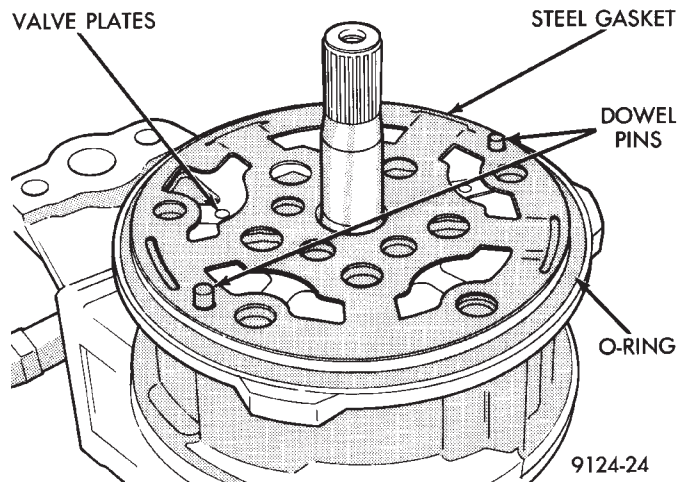

Fig. 8 Disassembling Compressor Front End
(10) Remove dowel pins, valve plates, and steel valve plate gasket. Discard steel gasket (Fig. 8).